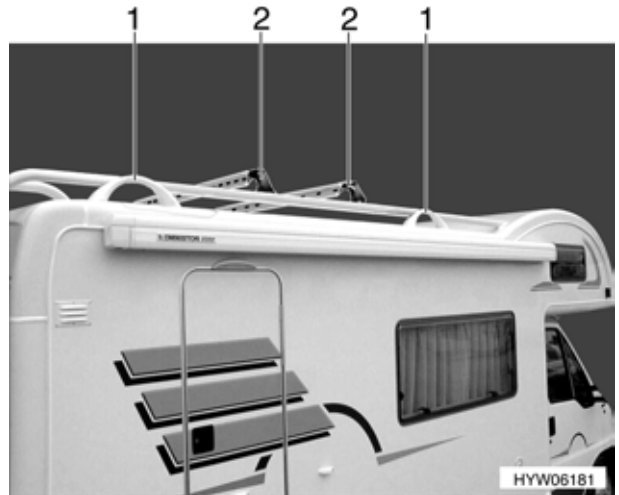

Fig. 1 Load rack
- ▶ The roof rack (Fig. 1,2) must only be attached between the roof rail supports (Fig. 1,1).